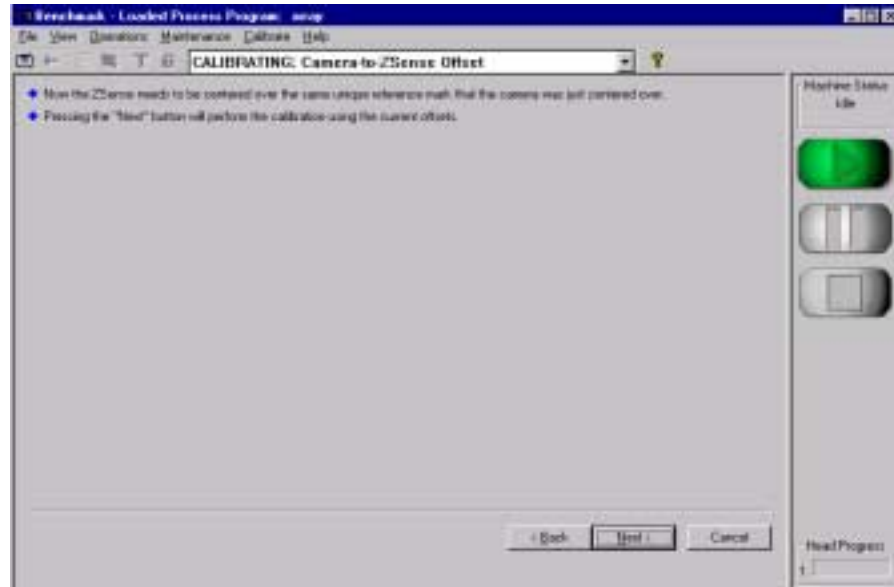

Figure 6-30
12. Select the **Next>** button after the correct the ZSense location is taught. The current and newly calculated offset values are displayed in the **Camera-to-ZSense Offset** screen. See Figure 6-30.